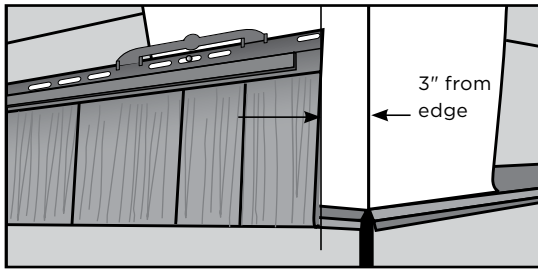

Figure 6
1. Install the first Cedar Impressions panel 3" from the edge of the outside wall (*Figure 6*).